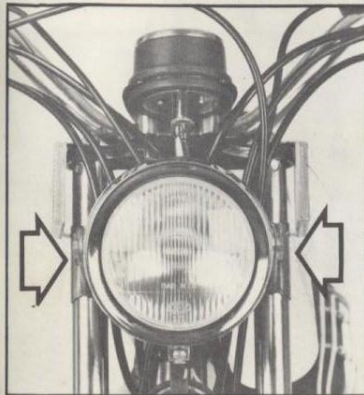

Fig. 19
- Slightly loosen the two headlight adjustment bolts (Fig. 19).